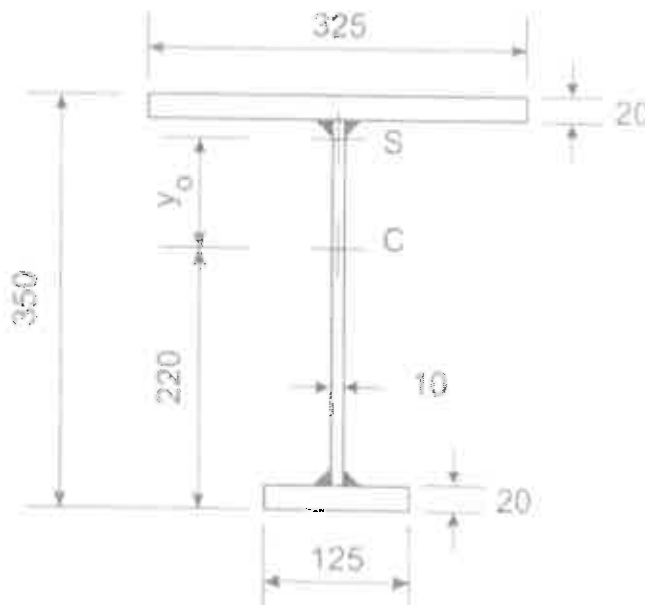

Figure 1
- (a) Explain why bolted compression members are always designed on the basis that the gross-sectional area will be effective in resisting the applied load, unlike tension members? (4)
- (b) A built-up column section shown in Figure 1 is designed to support a compressive load of 1750kN. The effective length of the column is 5m. If the steel plates are of Grade 350W steel, check whether this section is able to carry the load. The properties of the section are as follows: